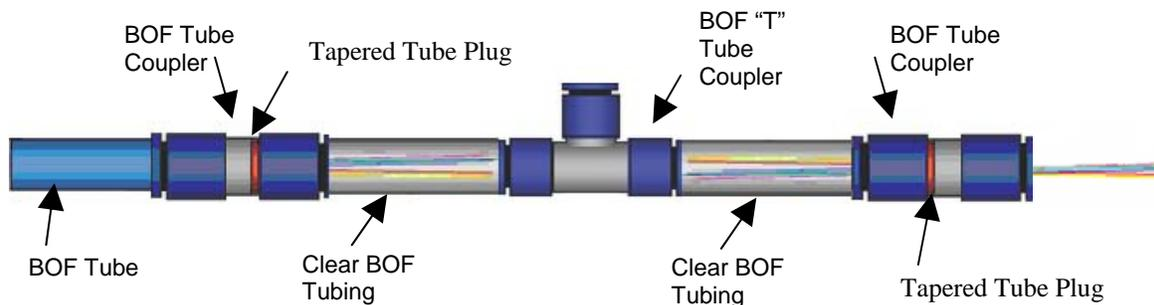

Figure 8
Step 11 - Insert the individual fibers into the tube coupler. Slide the tube coupler over the fibers to the short piece of clear BOF tube. Slide the tube coupler onto the clear BOF tube and firmly seat the tube within the tube coupler. (Figure 8). Apply a light load of approximately 22 N (5 lbs) between the coupler and the tube to ensure the coupler is fully engaged onto the tube.